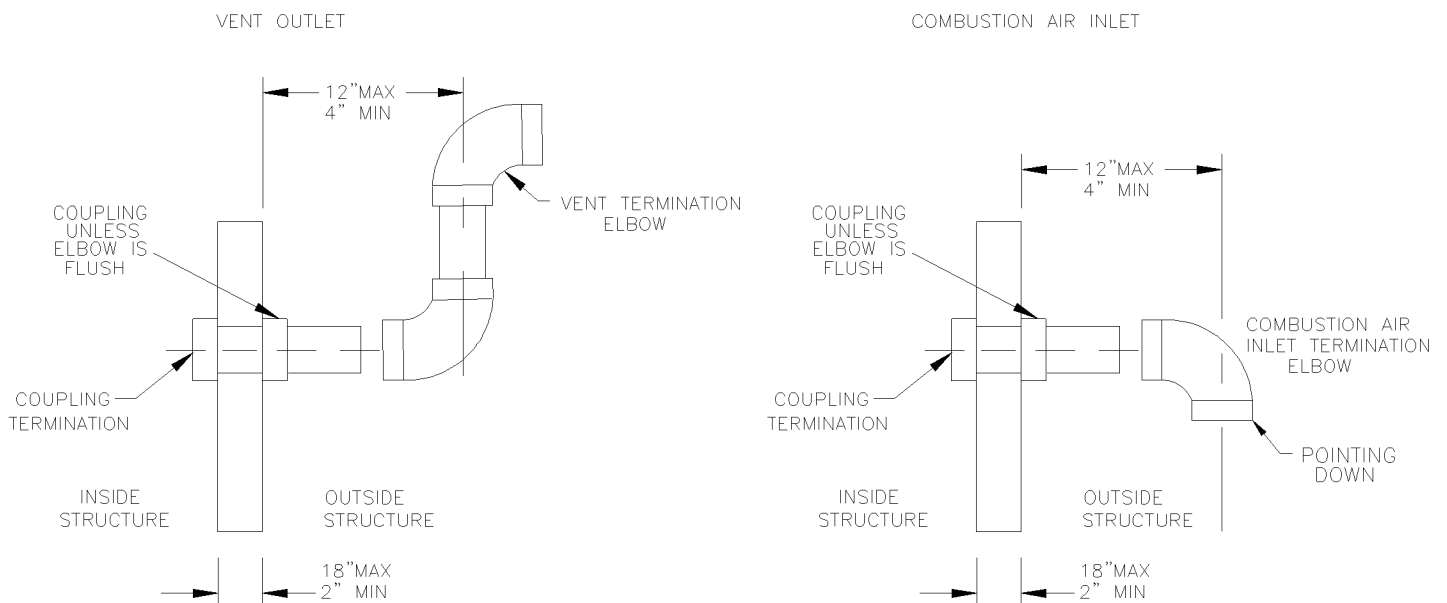

Figure 2
1. The maximum wall thickness through which the vent and combustion air pipes may pass is 18" and the minimum is 2". The maximum distance from the outer wall to the center of the elbow is 12"(See Figure 2).
2. The PVC vent termination elbow must be installed in accord with local codes and these instructions. The bottom edge of the vent termination elbow must be installed at least 12 in. above the outlet of the combustion air intake termination elbow and must be installed in the same atmospheric pressure zone (i.e. on the same wall). It is recommended that the horizontal distance between the inlet and flue termination be kept to a minimum when possible and not exceed 24 in. apart. The vent and air intake should utilize the same numbers of elbows and approximately the same length of straight pipe to reach the outside termination elbows. (See Figures 2 & 3).